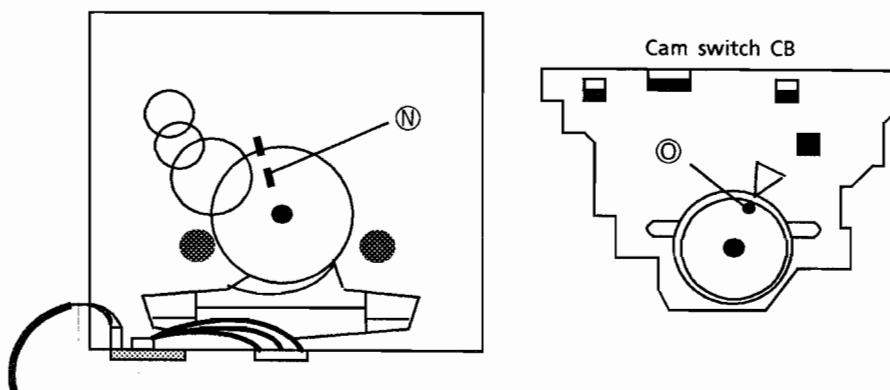

Figure15
- * When installing the cam switch circuit board, assemble the circuit board so that the part ⑮ meets part ⑯ (Figure 15).